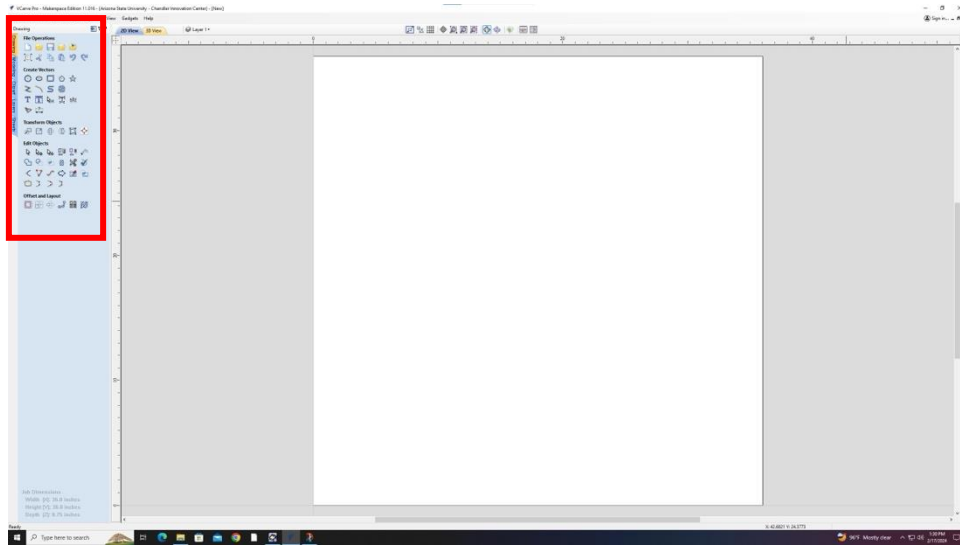

Figure 15: “Drawing” tab on the left side
4. After clicking the “OK” button, click on the “Drawing” tab on the left side and import the drawing from the dxf file saved to the device(Figure 15). (To edit job setup click job dimensions).